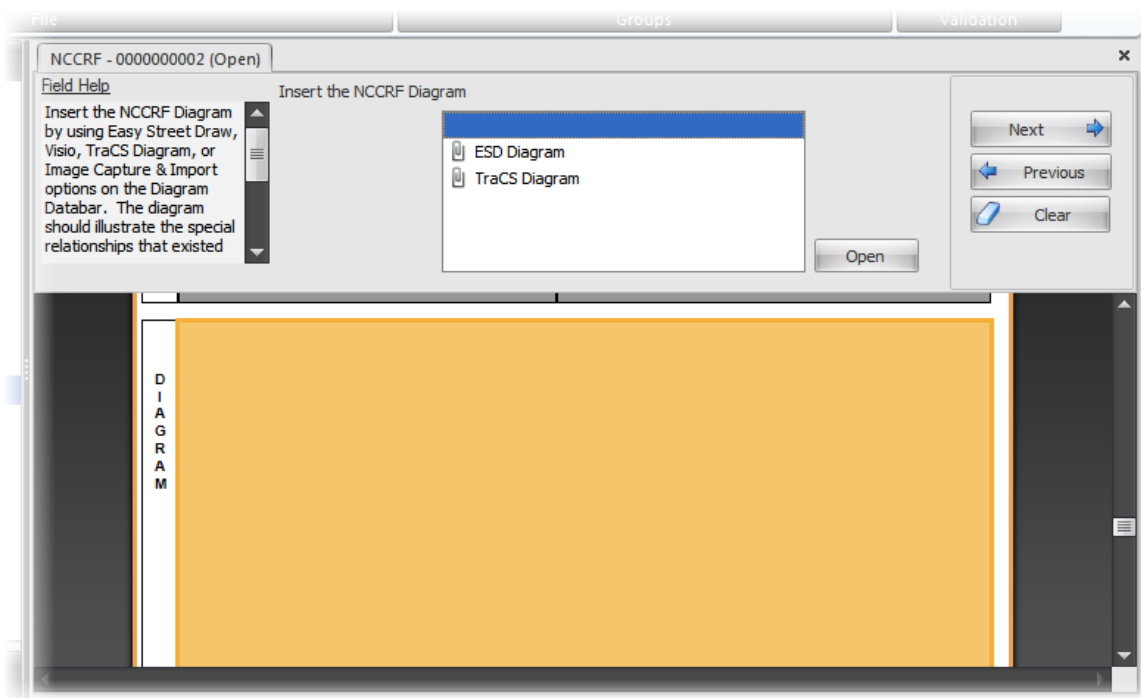

Figure 48. Chose Diagram Tool
1. Go to the Diagram group on the form (Figure 48) and select **ESD Diagram** or **TraCS Diagram** and click **Open**. The launch window opens.